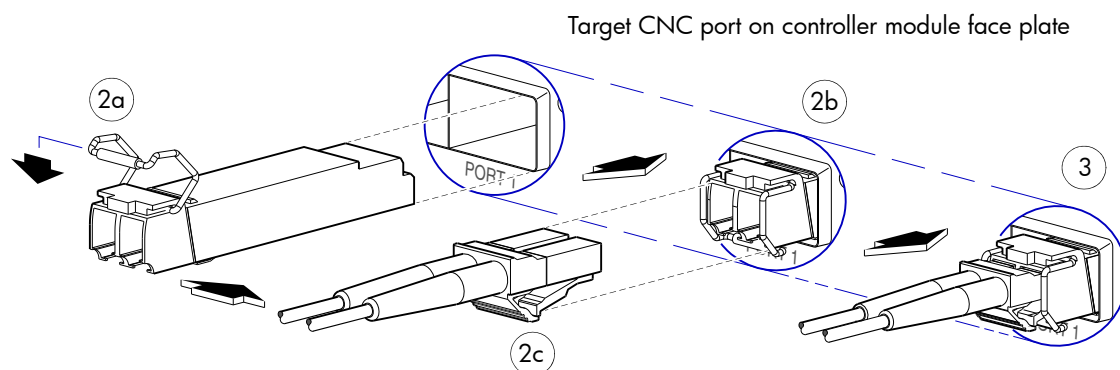

Figure 57 Install the SFP into the CNC port
2. Install the SFP and connect the host interface cable per Figure 57 below: